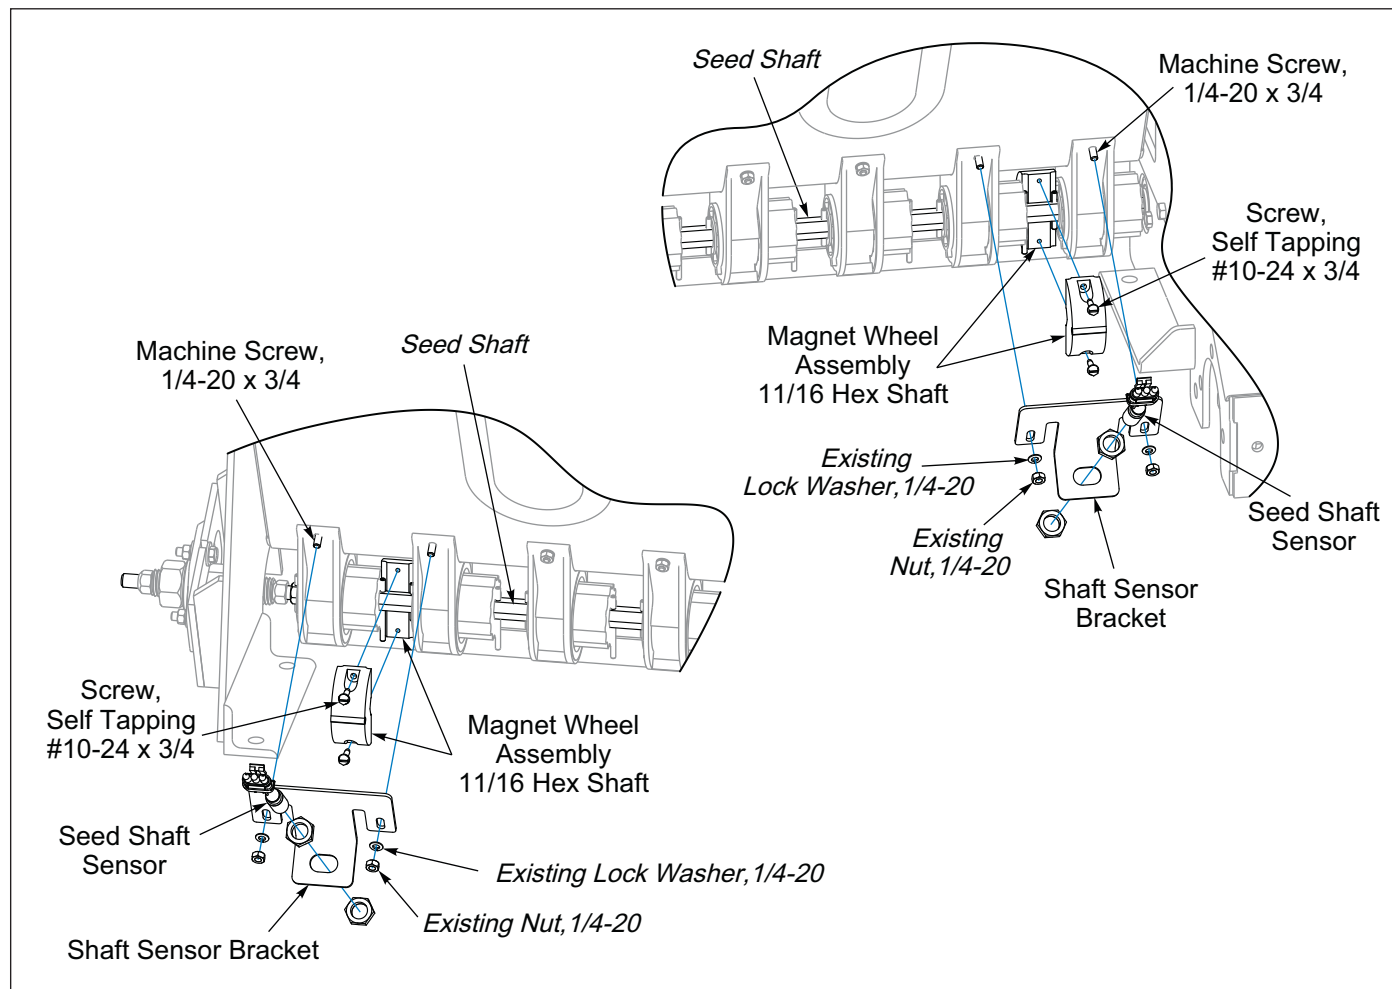

Figure 2-40: Console w/Clutch Control Seed Shaft Sensor
6. Insert Seed Shaft Sensor into Shaft Sensor Bracket Slot. **See Figure 2-40.**